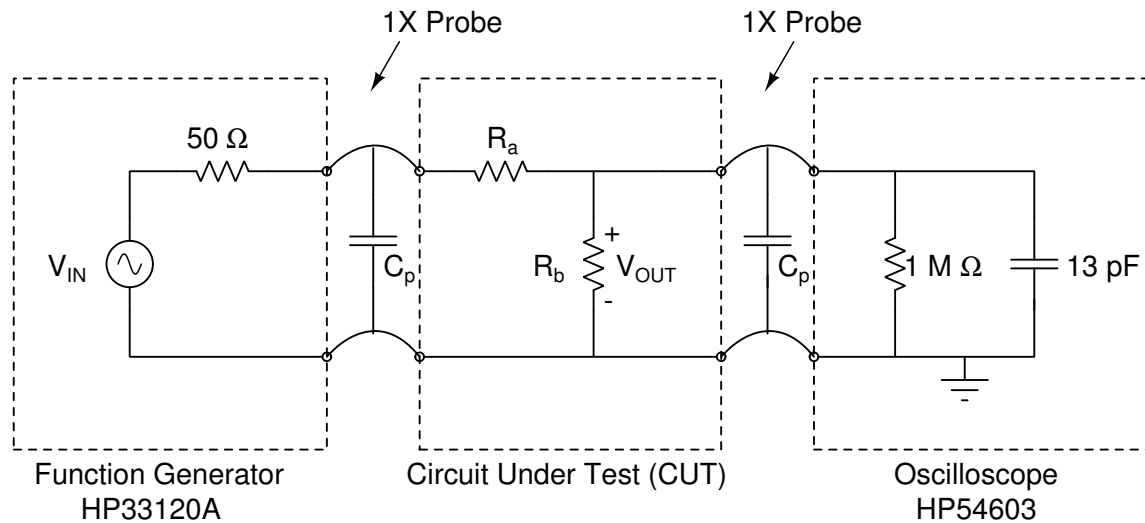
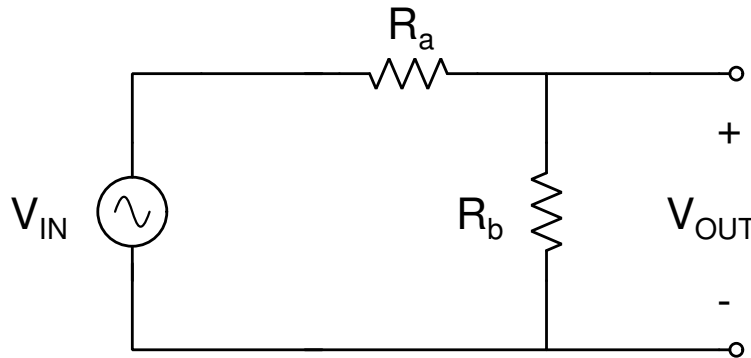

Figure 1: Test set-up for the resistor divider circuit.
Figure 2: Ideal resistor divider circuit.
Introduction In this lab you are to determine the voltage ratio, V_{OUT}/V_{IN} , produced by the voltage divider with resistors R_a and R_b shown in Figure 1.
1. Use the Tenma 72-1025 LCR Meter to measure the capacitance of your 1X probes at a frequency of 1kHz. Make sure the capacitance meter is set to measure capacitance with series resistance. Also measure the Dissipation Factor (DF) of the probes at a frequency of 1kHz. Record these values in your notebook.
4. For each of the three pairs of resistors, place two resistors with the same value on the breadboard to make a series circuit as shown in Figure 2 below. If the resistors have slightly different values, make sure you keep track of which resistor is which.
9. Set the FG to generate a 1kHz sinusoidal signal with peak voltage $V_{IN} = 1V$. Verify both the frequency and peak voltage using the scope then connect the FG and scope to the resistors as shown in Figure 1.
For the voltage divider circuit an estimate of the error introduced by the measurement apparatus can be obtained by comparing the values of V_{OUT} from an analysis of the circuit in Figure 1 with the values of V_{OUT} from an analysis of the circuit in Figure 2.
1. Derive an equation $V_{OUT1}(R)$ expressing the output voltage V_{OUT} as a function of the resistance R for the circuit of Figure 1. Include in the calculation the capacitance of the 1X probes, the output resistance of the FG and the input impedance of the scope.
2. Derive an equation $V_{OUT2}(R)$ expressing the output voltage V_{OUT} as a function of the resistance R for the circuit of Figure 2. Do not include in the calculation the capacitance of the 1X probes, the output resistance of the FG and the input impedance of the scope.
Extra credit: The measured output voltage V_{OUT} from the resistance divider is not only a function of resistance R but also of frequency f . Derive an equation $V_{OUT1}(R, f)$ expressing the output voltage V_{OUT} as a function of both the resistance R and the frequency f for the circuit of Figure 1. Use Matlab[®] to plot $V_{OUT1}(R, f)$ when the value of R is varied from 10Ω to $10M\Omega$ and the value of f is varied from 100 Hz to 10 kHz. Plot the data as a 3-dimensional surface plot with V_{OUT} on the z-axis (linear) and R and f on the x-axis and y-axis (logarithmic). Place a copy of the graph in your notebook and place an entry to this graph in the table of contents.